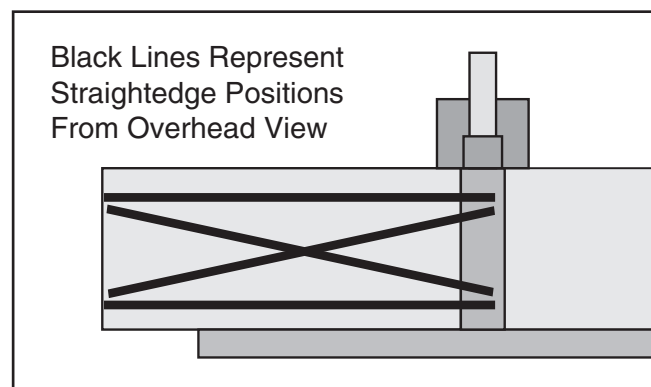

Figure 67. Straightedge positions for verifying if outfeed table is parallel with cutterhead.
3. Place the straightedge on the outfeed table so it hangs over the cutterhead in one of the positions shown in **Figure 67**.
5. Continue placing the straightedge in the remaining positions shown in **Figure 67**. In each position, the feeler gauge measurement should be nearly identical.